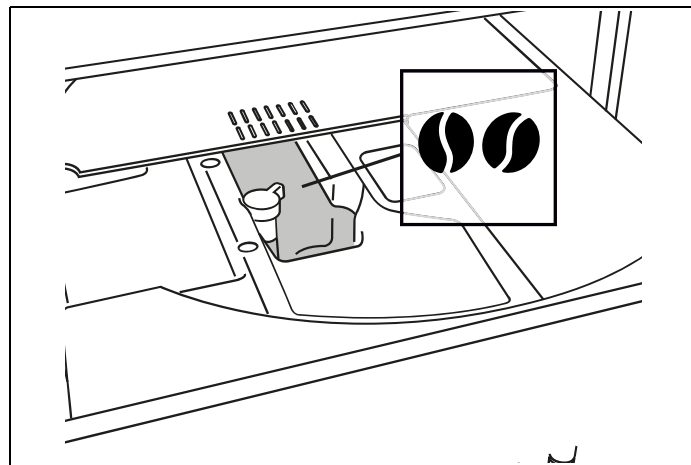

Fig. 24
- 1) Fill the beans container (A16) (Fig. 24) with coffee beans;